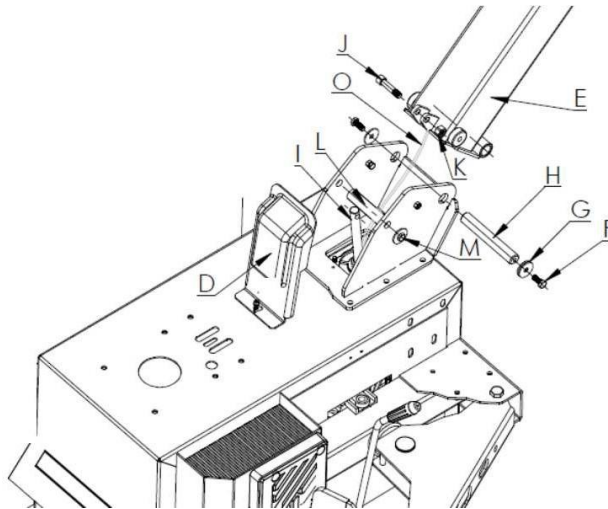

Fig. 6
- As in Fig. 6, take down the front fender D.
- Lift up the post E, as in Fig.6, make the hole alignment and put the pin H, tight the screw F(M12×25) with washer G. (If the post E can not been put in, please loosen the screw M. Tight it again after you put the post in.)